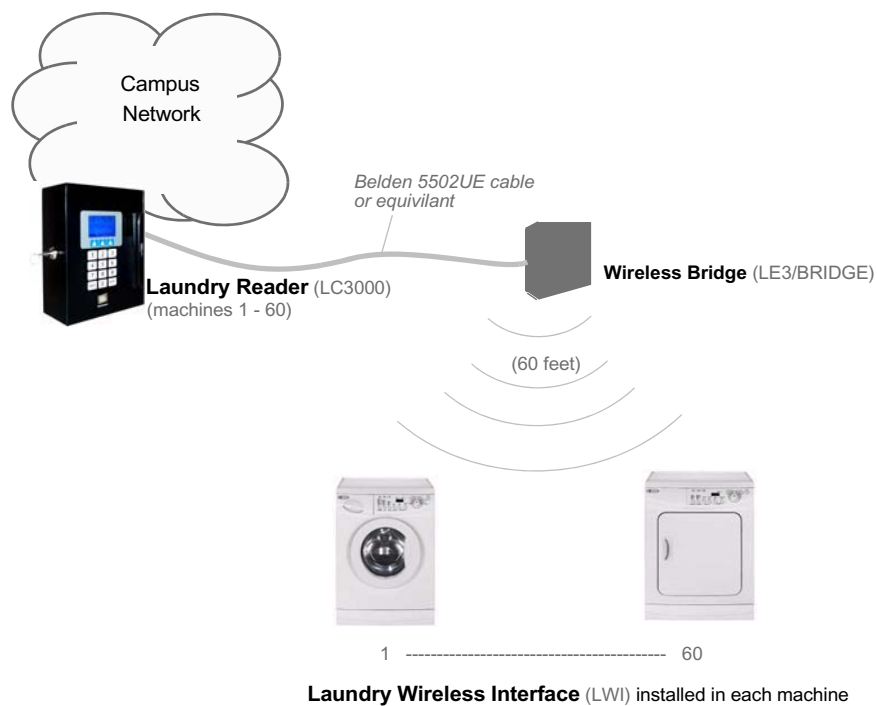

**Figure 1: Wired Laundry Center Solution**
The wired solution supports up to 60 laundry machines (see Figure 1 below). In laundry centers with 20 or fewer machines, you only need a single LCM20, which is installed inside the LC3000 enclosure. If your laundry center supports more than 20 machines, a multiplexer (an LCM20) and an enclosure (LE3/PSENCL) are needed for each additional set of 20 laundry machines. The LC3000 reader can support a maximum of three (3) multiplexers.